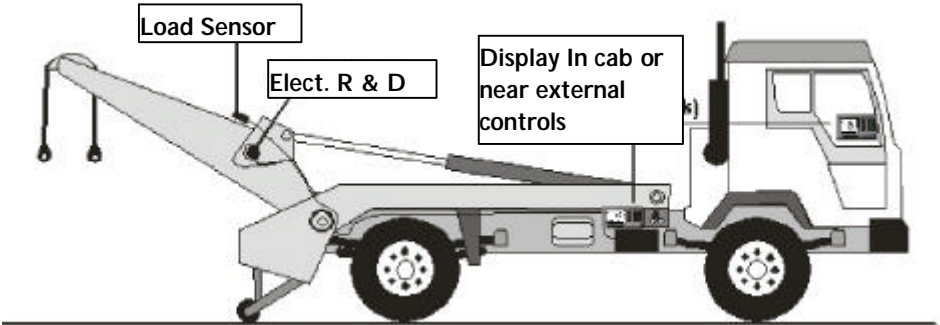

Figure 12 Weighing reference position
1. Lift the arms to the reference position. This is normally at the point where the cross bar is level with the top of the windscreen (fig.12).
2. Fit the angle sensor on the centre of either_arm pivot (fig.12). **Rotate the sensor so that the cable gland on the sensor housing is horizontal and faces toward the rear of the vehicle.** The sensor won't work properly in any other position.